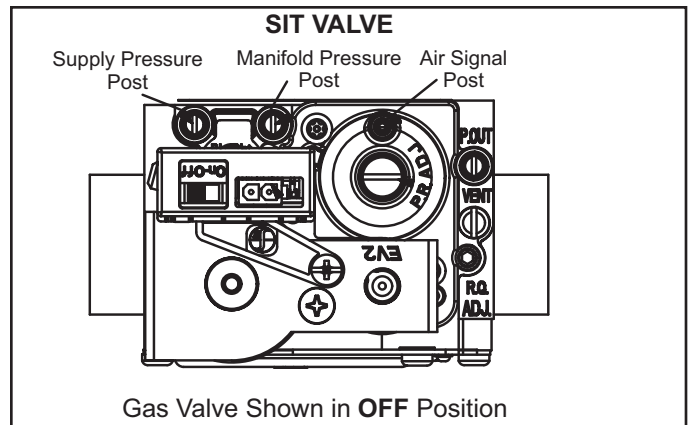

FIGURE 3
Operating the Gas Valve (Figure 3)
- 6 - Move switch on gas valve to OFF. Do not force. See figure 3.
- 4 - Move switch on gas valve to OFF. Do not force. See figure 3.